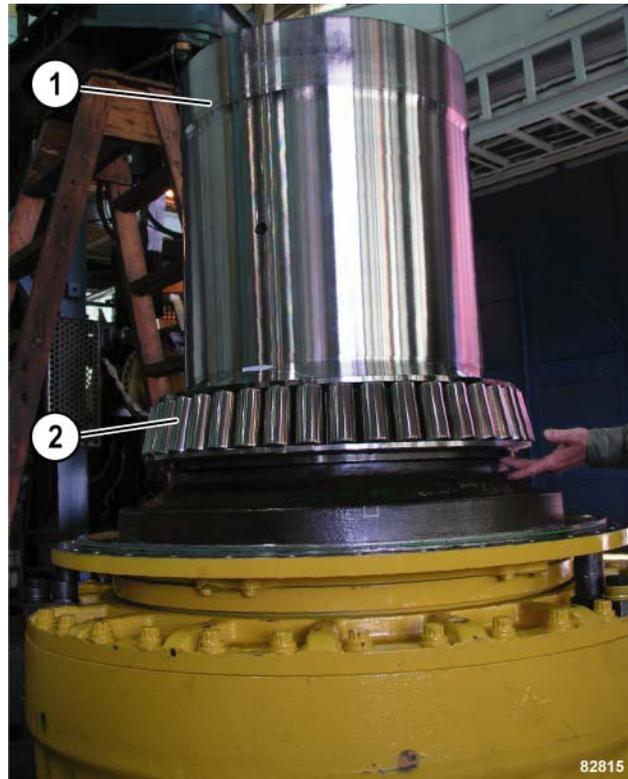

FIGURE 50-43.
28. Using an appropriate bearing puller, loosen inner bearing (2, Figure 50-43).